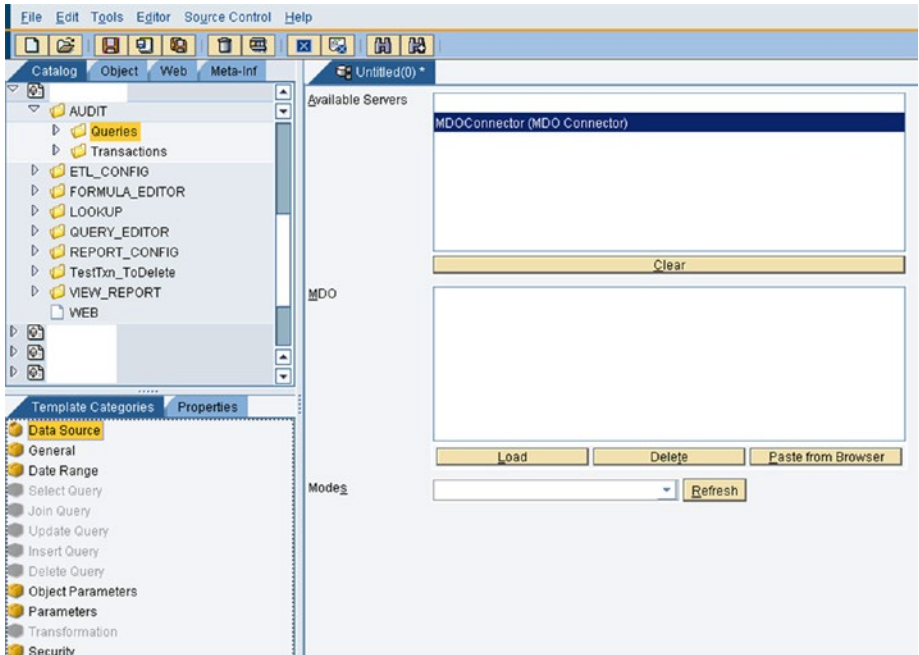

Figure 6-15. Choosing an MDO data server
2. Select a server from the list of available servers, as shown in Figure 6-15.